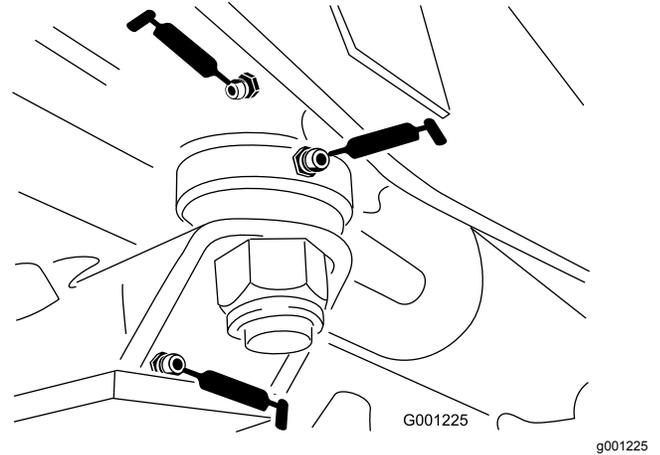

Figure 42
- Steering-plate bushings (Figure 42)
- Axle-pin bushing (Figure 42)